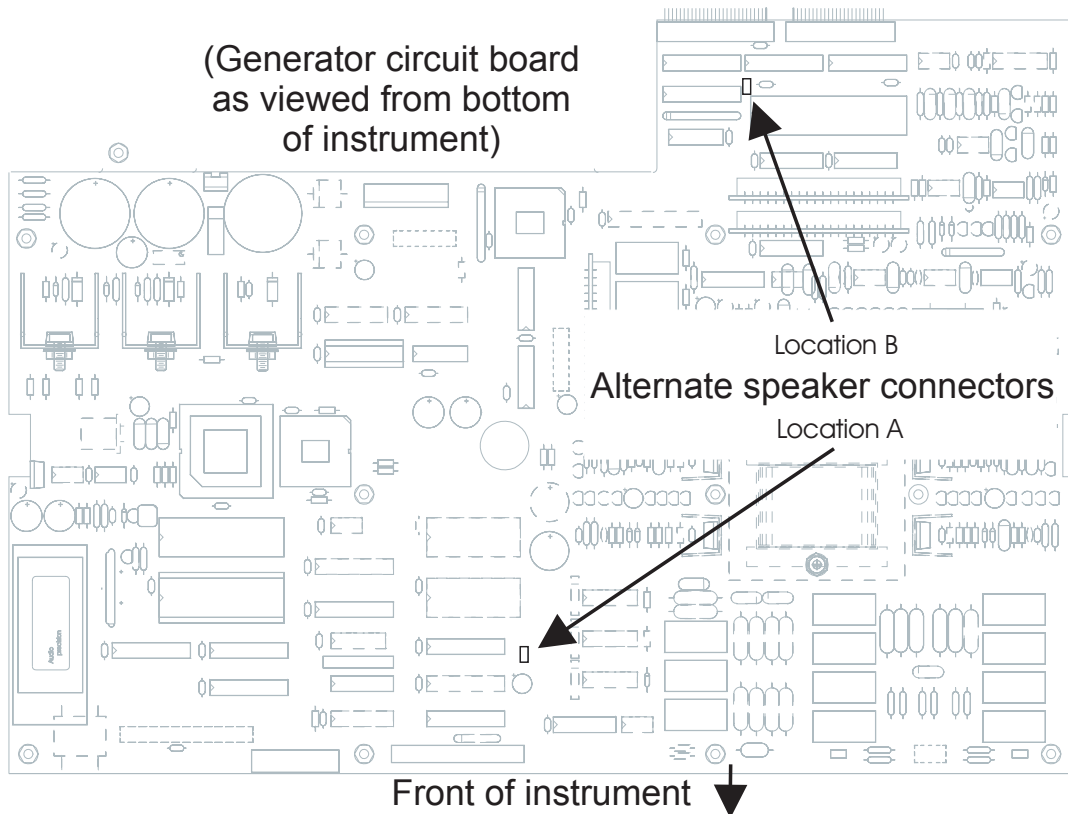

Figure C-1. Alternate Monitor speaker connector locations
6. Disconnect the cable from the loudspeaker to the circuit board connector on the bottom side of the chassis at the rear edge of the circuit board (Location A in Figure C-1).
9. Connect the loudspeaker cable to the alternative two-pin circuit board connector on the bottom side of the chassis at the front edge of the circuit board (Location B in Figure C-1). The connector polarity is unimportant.